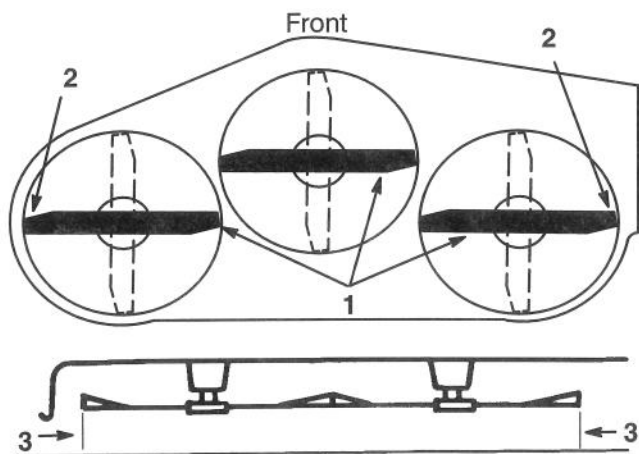

Figure 8
3. Carefully rotate blade(s) side to side (Fig. 8). Measure between the outside cutting edges and the flat surface (Fig. 8). If both measurements are not within 3/16" (4.762mm), an adjustment is required; refer to steps 4 and 6.